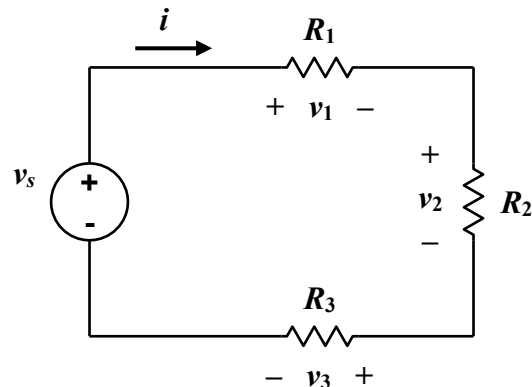

Figure 2.3a
- Construct only the resistive part of the circuit shown in **Figure 2.3a** with $R_1 = 680 \Omega$, $R_2 = 1.0 \text{ k}\Omega$, $R_3 = 3.0 \text{ k}\Omega$. Make sure you connect the resistors in the correct order. Do not connect the power supply yet.